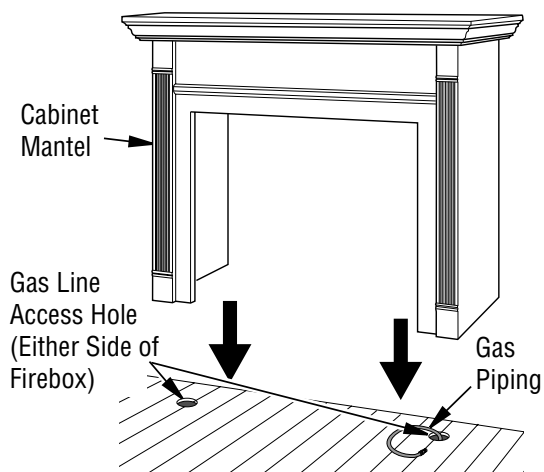

Figure 11 - Installing Cabinet Mantel (Mantel May Vary From Illustration)
2. Install gas piping to firebox location. See Gas Line Installation on page 14. You may have to cut an access hole in the floor or wall to run gas line to firebox. Make sure to locate access hole so cabinet mantel will cover it when installed (see Figure 11).